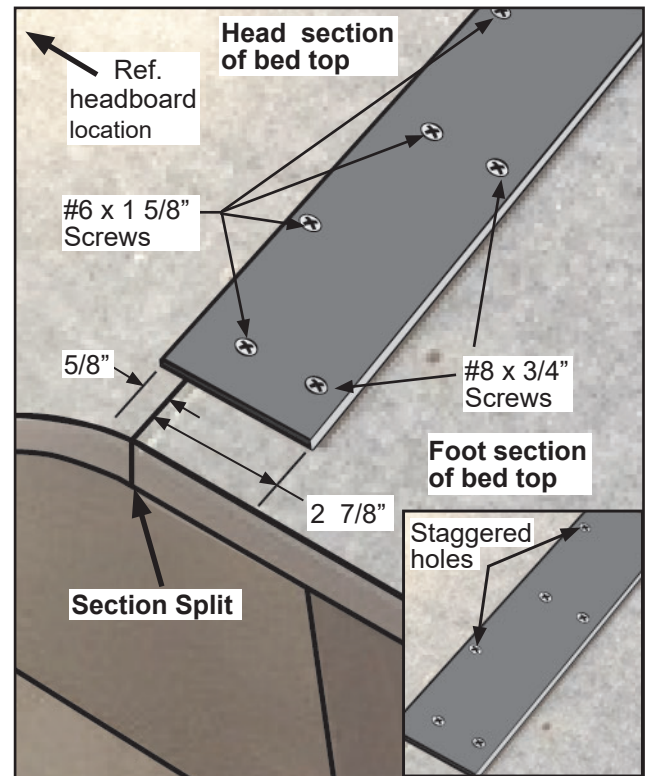

Figure 3
8. Locate the metal reinforcement strips, included in the repair kit. Be sure to orient each strip so the staggered holes are located on the side nearest the headboard. (See the inset in Figure 3.)